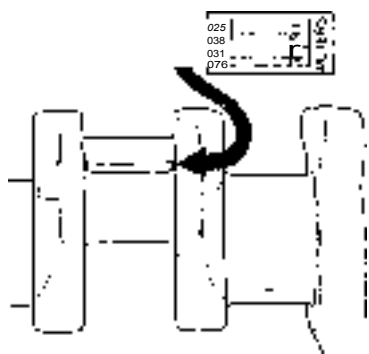

Fig. 78. Check measuring of measuring plastic
- Remove the cap and measure the width on the pressed out measuring plastic at the widest point. Use the scale which accompanies the measuring plastic (Fig. 78).